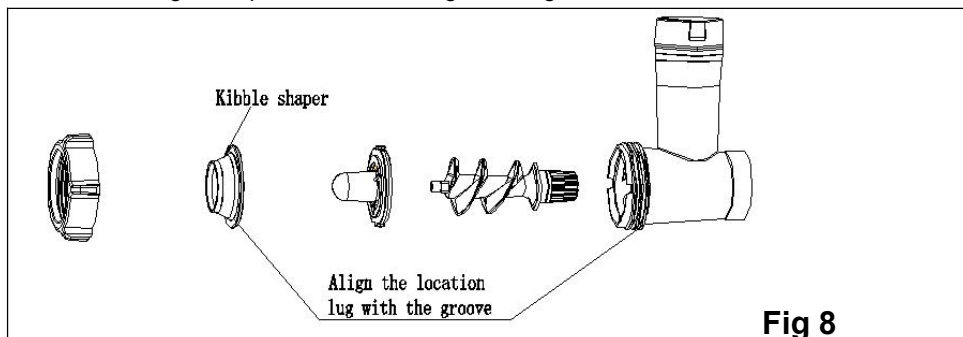
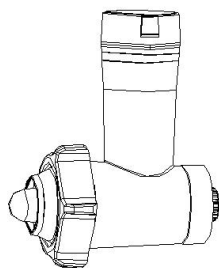

Fig 8
Fig 9
6. After the blending function which mention above (Sinewless, boneless and fatless meat is recommended, approximate size: 20 mm x 20 mm x 60 mm)), put the meat into this function “Making meat plate”. See arrow fig.8 and fig.9.